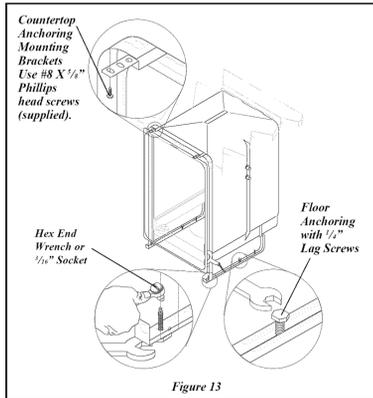

Figure 13
1. Adjust levelers (see Step 5) so mounting brackets touch underside of countertop. **IMPORTANT:** Dishwasher must rest on floor—do not hang from countertop. See Figure 13.
1. Screw $\frac{1}{4}$ " lag screws, not included, through holes provided in frame rail. See Figure 13.